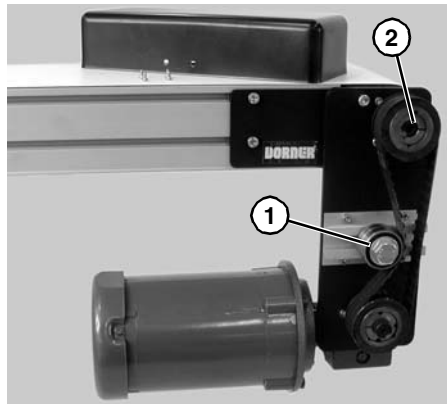
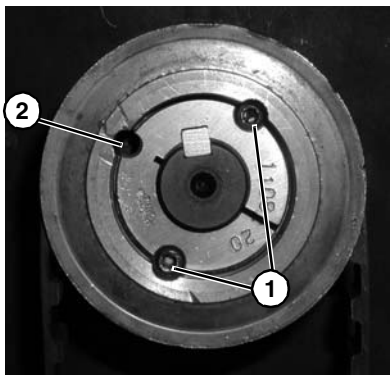

Figure 61
Figure 62
- c. Loosen tensioner (**Figure 61, item 1**).
- d. Remove taper-lock screws (**Figure 62, item 1**) on the driven pulley (**Figure 61, item 2**). Insert one (1) of taper lock screws (**Figure 62, item 1**) in remaining hole (**Figure 62, item 2**). Tighten screw (**Figure 62, item 1**) until pulley is loose. Remove pulley, taper hub assembly and timing belt.